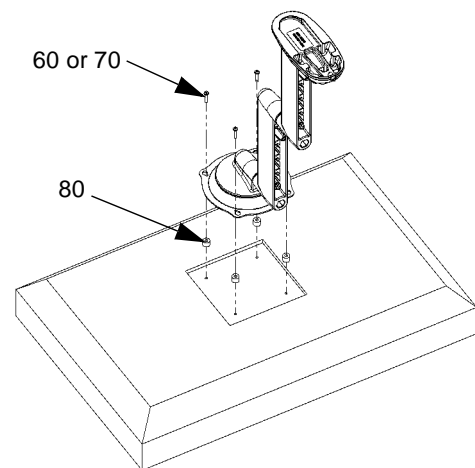

Figure 5: Recess Mount Centris Bracket to Display
1. Select four M6 screws (60 or 70) and four spacers (80) from parts bag.
3. Install four M6 screws (60 or 70) into the four mounting holes on centris bracket.(see Figure 5)
4. Slide 4 spacers (80) onto four M6 screws (60 or 70).
5. Align centris bracket, with screws (60 or 60) and spacers (80), with mounting holes in display back.